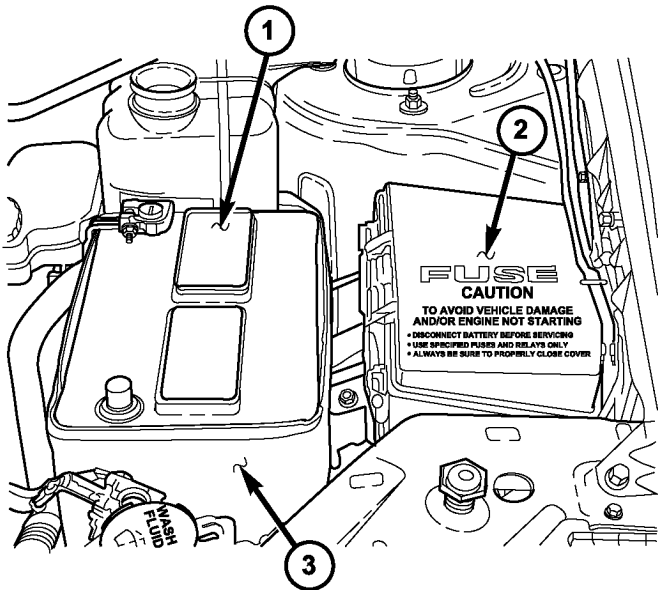

Fig. 2 Integrated Power Module (IPM)
- (1) Disconnect and isolate the negative battery cable.
- (2) Remove the cover from the integrated power module (IPM) located in the engine compartment (Fig. 2).